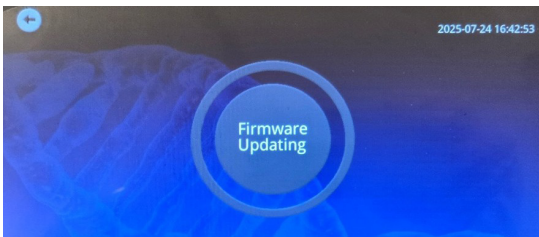

Figure 20: Firmware updating interface of the CleanXtract 96.
5. The CleanXtract 96 will automatically update the firmware. Furthermore, a progress bar will appear around the words "Firmware Updating", as shown in Figure 20.